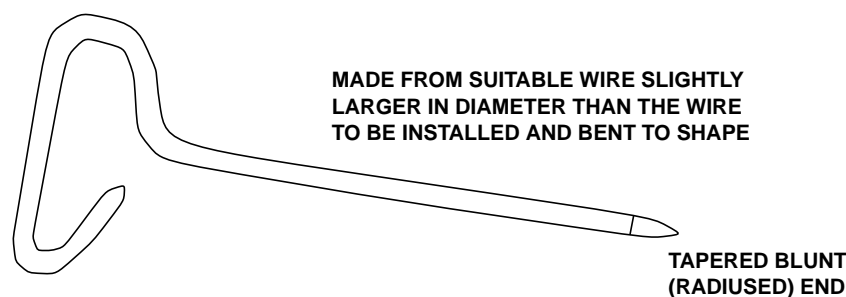

FIGURE 1 - HOLE BORING TOOL
4.2.4 Hole boring tool (see Figure 1).